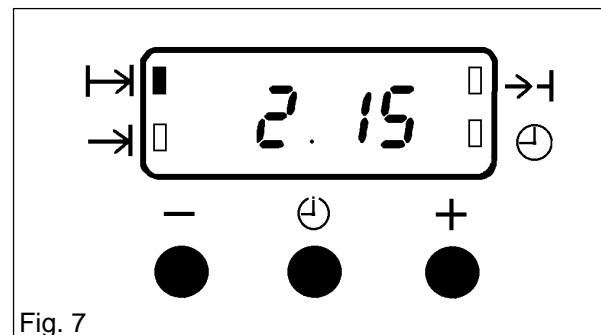

Fig. 7
- iii) To set the length of cooking time, press the Selector Control button (⌏) until the 'Cook Time' indicator is illuminated (|→). Press the increase control (+) until the required length of cooking time is displayed, e.g. 2 hrs 15 mins as Fig. 7. If necessary depress the decrease control (-) until the correct time interval is achieved.